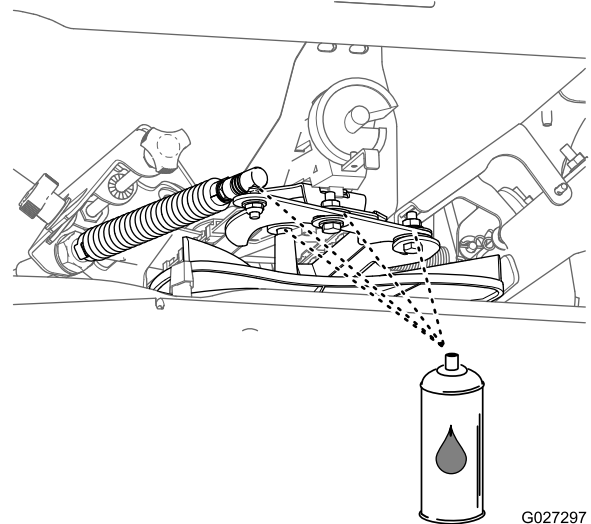

Figure 59
9. Apply water-displacing lubricant to the components as shown in Figure 59.